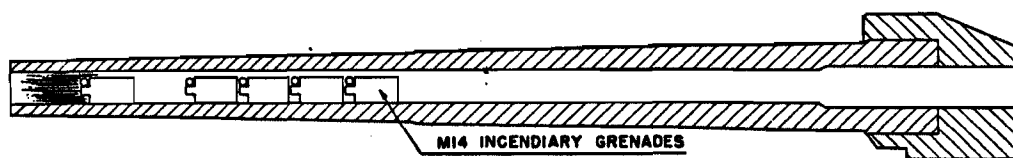

FIGURE 14.—Demolition by means of M14 incendiary grenades.
d. *Demolition by incendiary grenades.*—If evacuation is imminent and it is desired to accomplish demolition without tell-tale explosions, the following method should be used: Place 4 unfuzed M14 incendiary grenades end to end midway in the tube at 0° elevation. Close the breech. Equip another incendiary grenade with a 15-second Bickford fuze, ignite it, and throw it in the muzzle. The metal from the grenades will fuse with the tube and fill the grooves (see fig. 14).